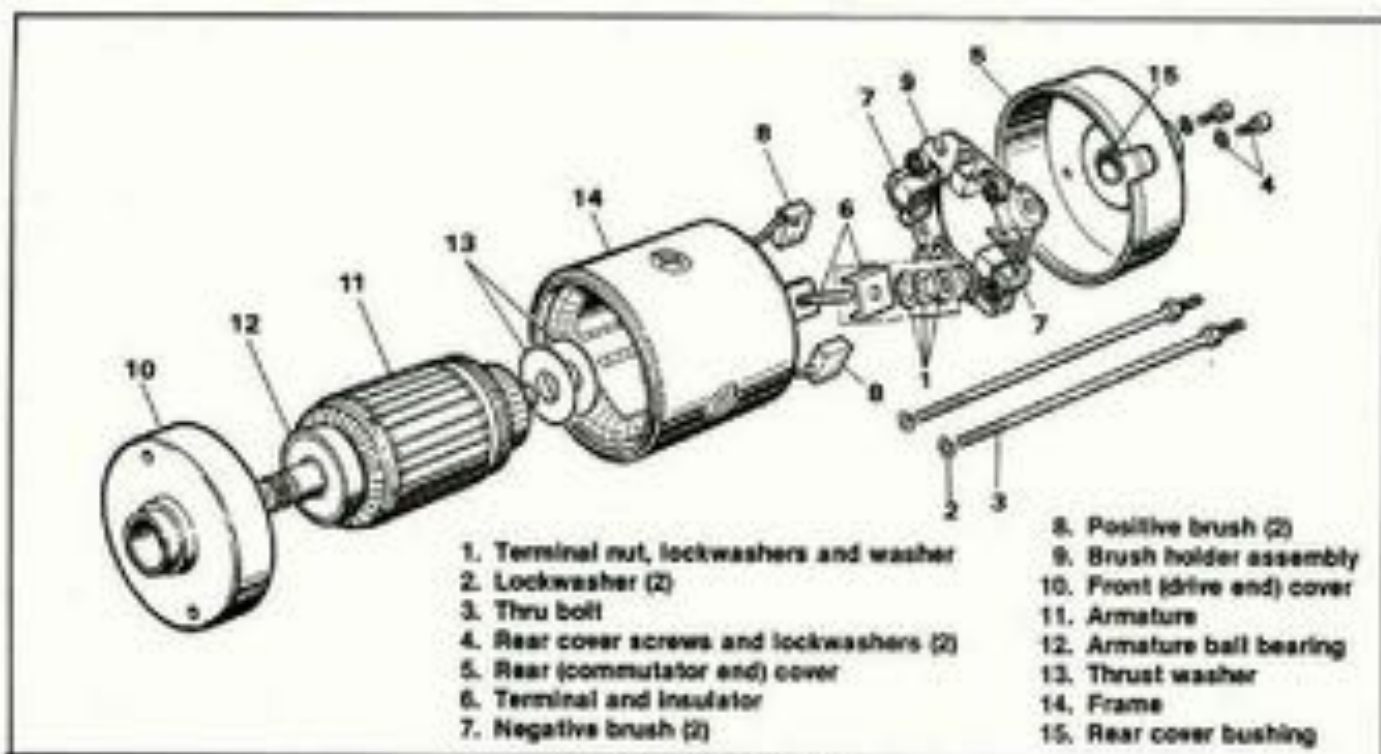

Figure 5-15. Starter Motor
#### DISASSEMBLY (Figure 5-15)
10. Inspect the bearing (12, Figure 5-15). If it is worn or loose, replace it.
11. Inspect the bushing in the commutator end cover (15, Figure 5-15) and the corresponding bearing surface of the armature shaft. If the bushing is worn, replace the commutator cover. If the armature shaft is worn, replace the armature.
**(Figure 5-15)**
1. Install armature (11) into frame (14). Install front cover (10).
2. Install brush holder (9) in frame (14).
4. Install thrust washer(s) (13) on armature (11) shaft.
5. Install rear cover (5), thru bolts (3) and lockwashers (2).
6. Secure brush plate assembly (9) to rear cover (5) with screws and lockwashers (4).